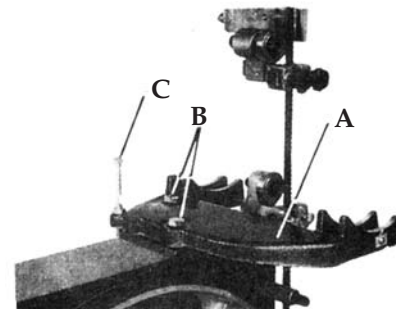

FIGURE 6
1. Locate the trunnion bracket (A-Fig.6) and bolt it securely to the band saw as shown. The longest bolt (C) is used as a stop to support the table at 90° to the blade. To install, thread a nut onto the bolt and turn the bolt into the threaded hole in the left, rear of the trunnion bracket.
5. **Table top:** Adjust the long bolt that was threaded into the trunnion bracket (C-Fig.6), so that the table rests on it when it is 90° to the blade. Lock the bolt in place by tightening the nut down onto the trunnion bracket.